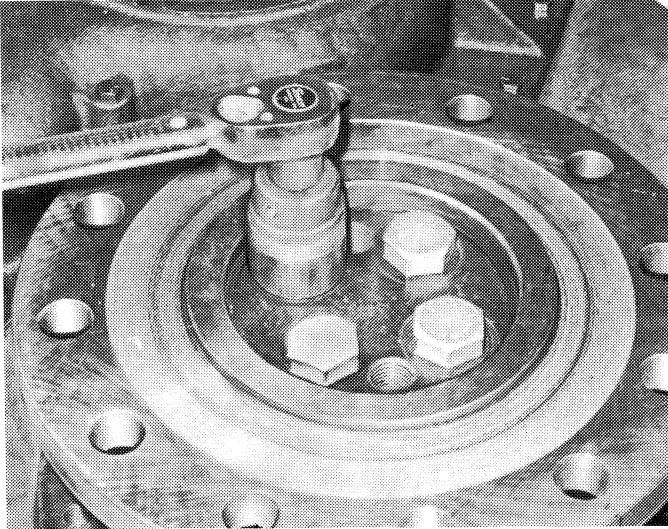

Figure 6-23. Removing or Installing Output Flange Retaining Screws.
3. Remove four hex-head screws from the output flange retainer washer. See Figure 6-23.